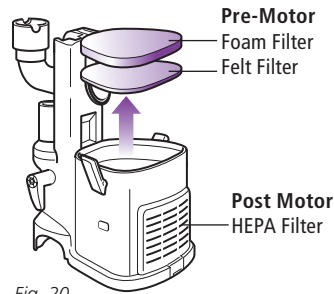

Fig. 20
- Pull the 2 filters out from the top of the motor base. **(Fig. 20)**